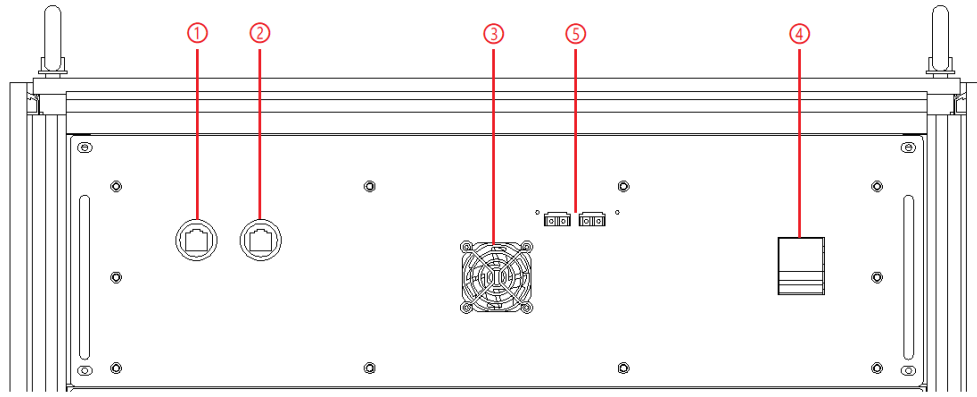

Figure 1-7 Front panel of the control module
The two LAN interfaces on the front panel of the control module are used for touch panel communication (Figure 1-7①) and hardware debugging (Figure 1-7②).
The LAN interface (Figure 1-7①) is connected to the touch panel by default before shipping. The interface (Figure 1-7②) is used for debugging before shipping. Do not use it without permission.